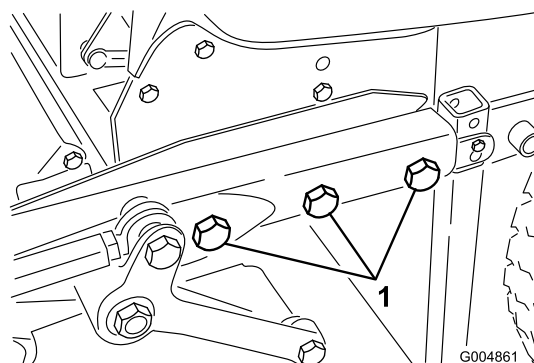

Figure 7
4. Roll the summer deck and frame into position and install the five 3/4" bolts, washers and nuts that connect the deck frame to the rear frame (Figure 7). Remove the lift cylinder pins to gain access to the bolts on the right hand side. Torque the bolts to 265 foot pounds.